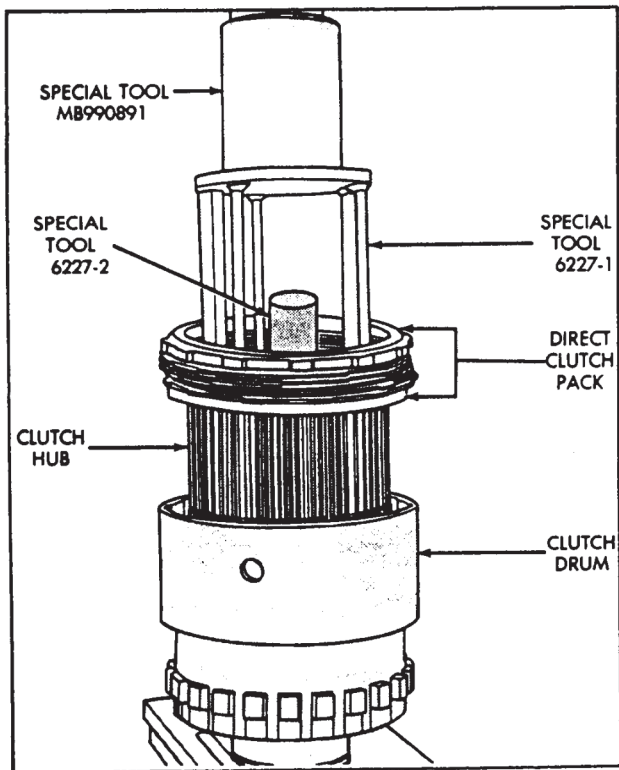

Figure 18
24. Position Compressor Tool C-6227-1 on clutch hub, as shown in Figure 18.
25. Position special tool or similar type tool on top of Tool C-6227-1, as shown in Figure 18.